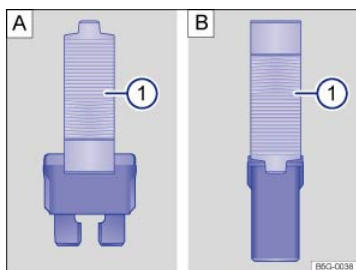

Fig. 174 Removing or installing a blade fuse with the plastic tweezers : Blade fuse. : JCASE® fuse.
- Depending on the type of fuse, slide the tweezers ⇒ Fig. 174 A ① or ⇒ Fig. 174 B ① onto the fuse from the side.
- If the fuse is blown, replace the fuse with a new fuse of the *same* amperage (same color and same imprint) and *same* size ⇒ ①.